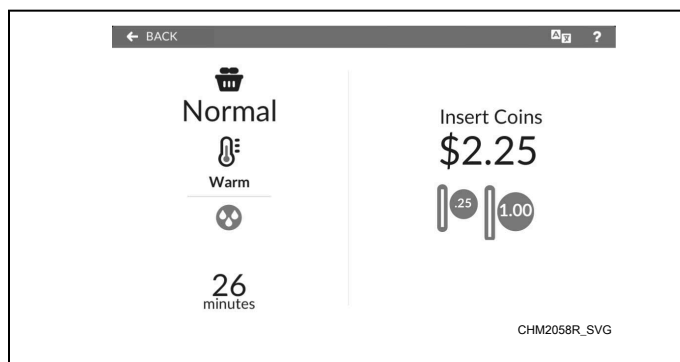

Figure 59
4. The Payment Menu shows the cycle selection summary and vend price total (refer to *Figure 59*). Once the total vend price is entered, the vend price total changes to show START.